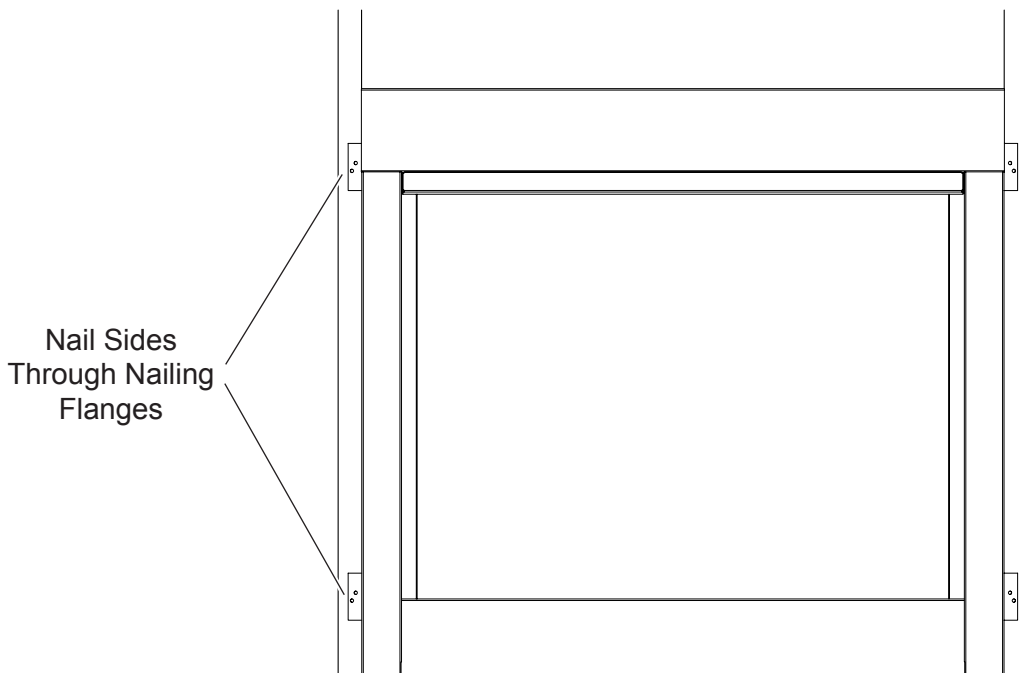

Figure 14 - Location of Nailing Flanges
4. Anchor firebox to the side framing members using 8d nails or other suitable fasteners. *See Figure 14.*